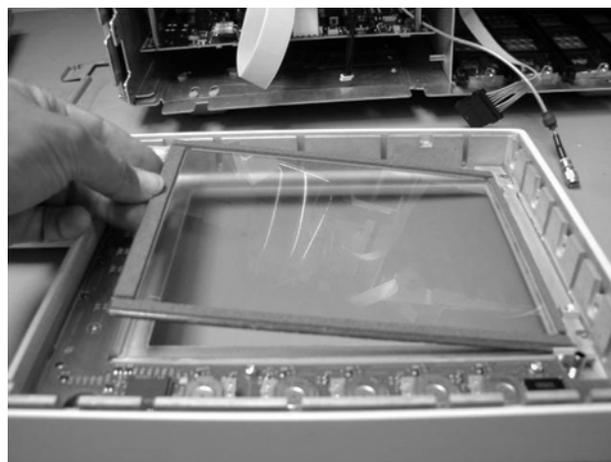

Figure 7-54. Lifting out the Touch Screen
- 3 Lift the touch screen out of the display assembly, as shown in Figure 7-54.